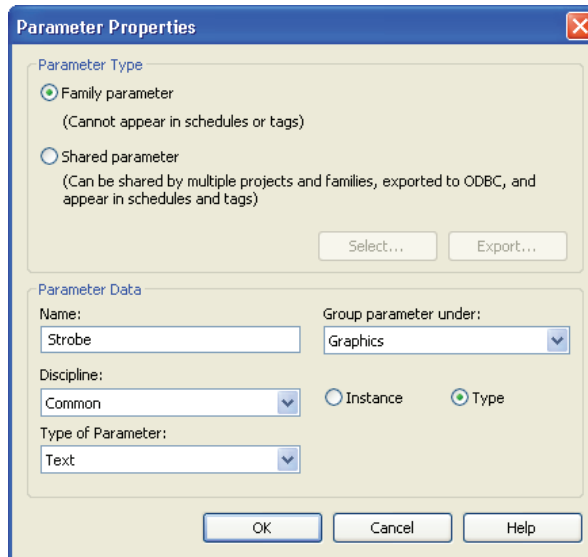

Figure 19
6. Create the Strobe parameter as shown in Figure 19. Repeat for Speaker and Speaker/Strobe. Ensure the parameters are grouped under Graphics and Yes/No and Type parameters are selected.